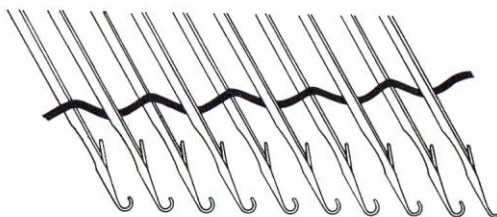

Fig. 13
(1) Lay across the thread upside and underneath of the needle's stems mutually. (See Fig. 13)
(2) Knit by carriage with the other yarn in the yarn feeder.